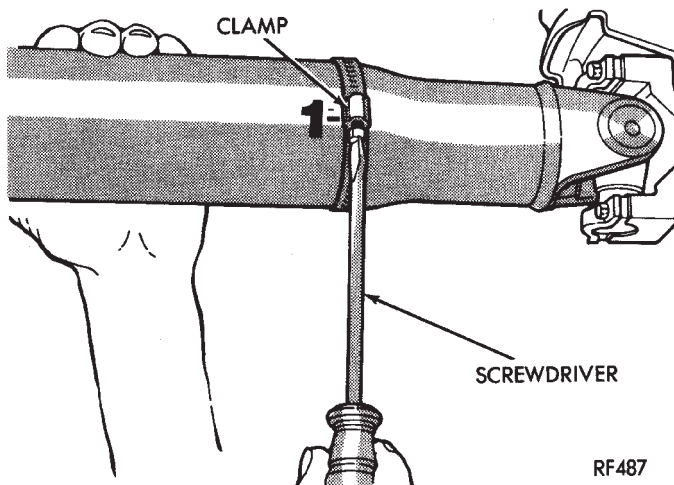

Fig. 4 Clamp Screw At Position 1
(4) Inspect the universal joints to ensure that they are not worn, are properly installed, and are correctly aligned with the shaft.
(5) Check the universal joint clamp screws torque.
(6) Remove the wheels and tires. Install the wheel lug nuts to retain the brake drums or rotors.
(7) Mark and number the shaft six inches from the yoke end at four positions 90° apart.
(8) Run and accelerate the vehicle until vibration occurs. Note the intensity and speed the vibration occurred. Stop the engine.
(9) Install a screw clamp at position 1 (Fig. 4).